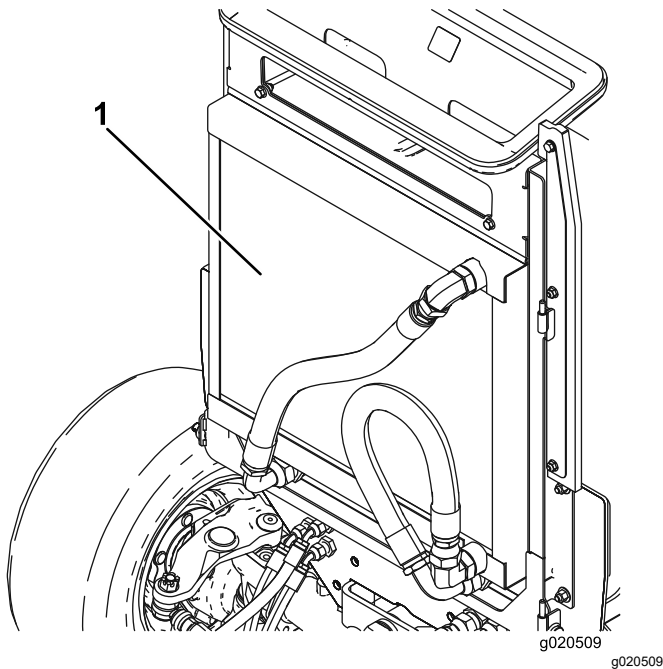

Figure 72
4. Thoroughly clean both sides of the oil cooler and the radiator with compressed air (Figure 72).